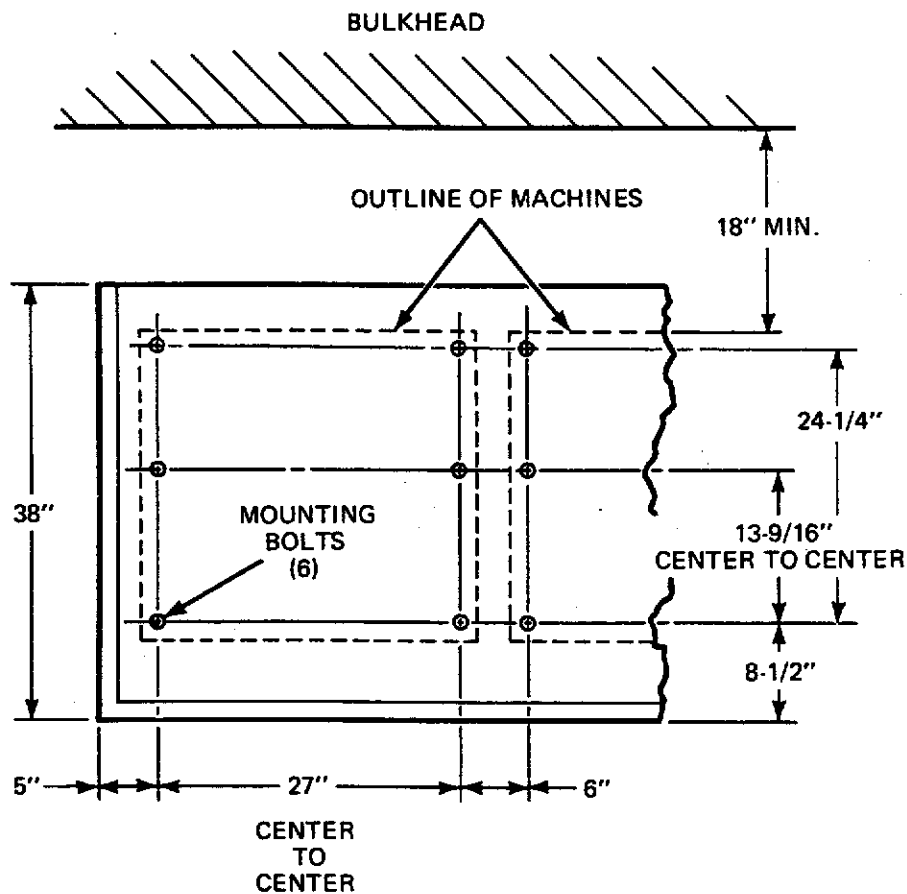

Figure 2
IMPORTANT: Size of template may change with humidity. Please check dimensions before using. See *Figure 2*.
- e. Check dimensions from bolt to bolt to assure that bolts are located properly. See *Figure 2*.
IMPORTANT: Size of template may change with humidity. Please check dimensions before using. See Figure 2.
- k. Check dimensions from bolt to bolt to assure that bolts are located properly. See Figure 2.